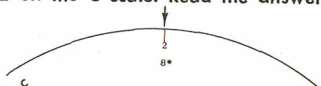

Figure 17
**Example:**  $2^3 = 8$  (Figure 17)